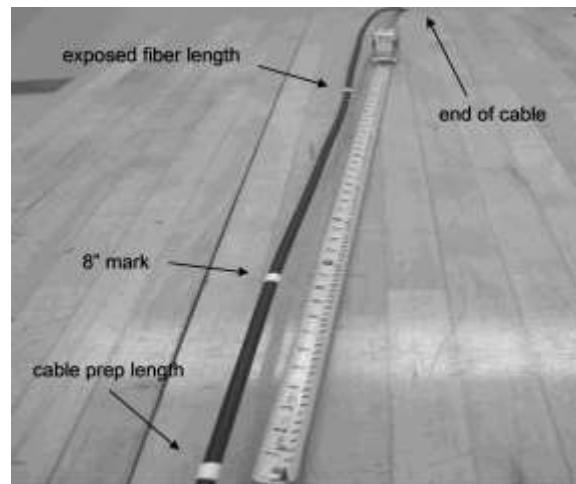

Figure 12- Mark the required cable prep lengths.
5.3 Consult the splice closure instructions for the length of exposed fiber that is required in the closure. Place a third mark on the cable at the required length. Finally, place a fourth mark about 8 inches away from this mark towards the end of the cable (Figure 12)